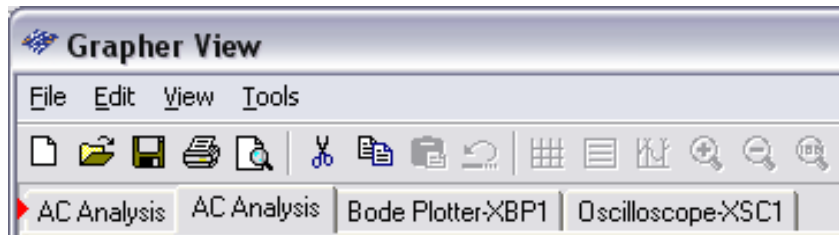

Figure E2-23. Grapher View graph tabs
16. In the Grapher View select the **Bode Plotter-XBP1** tab (Figure E2-23)